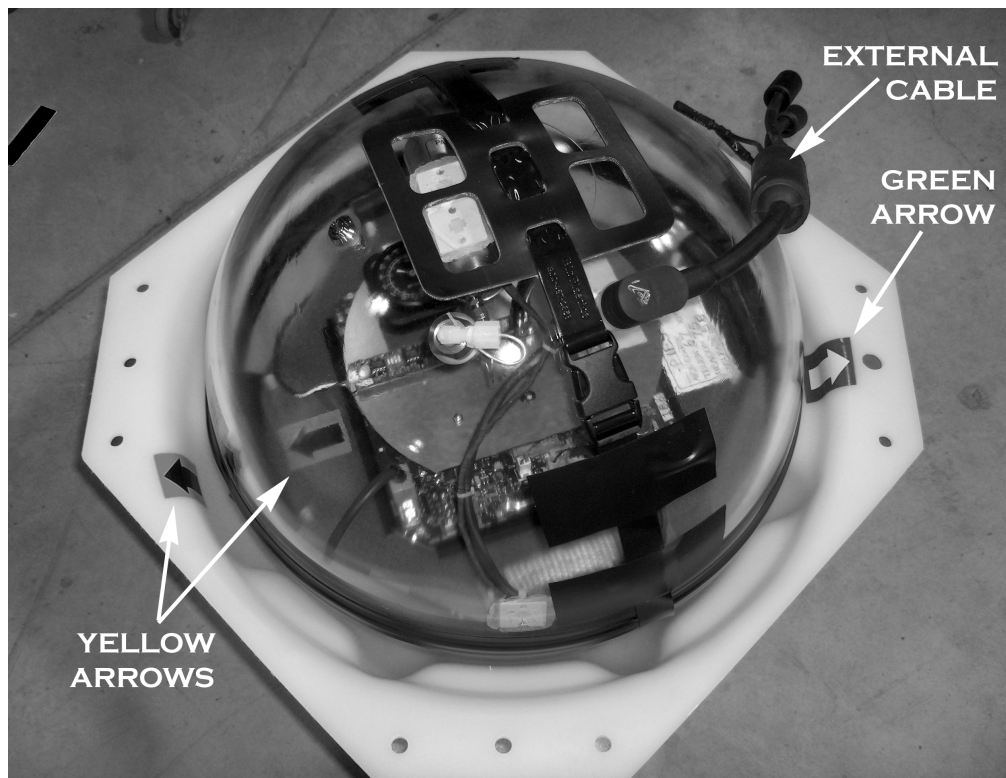

Figure 7-3 Placing the Sphere in the Hard Hat
After the electronics are sealed inside the glass sphere, follow these steps to install the sphere inside the white plastic hard hat as shown in Figure 7-3. The hardware required to assemble the hard hat is shown in Figure 7-4.
2. Lift the IES sphere assembly by the rubber lifting handle (transducer pointing down) and lower it into the hard hat... rotate the IES until the yellow arrow label on the edge of the hard hat is aligned with the yellow arrow on the glass hemisphere. See Figure 7-3.